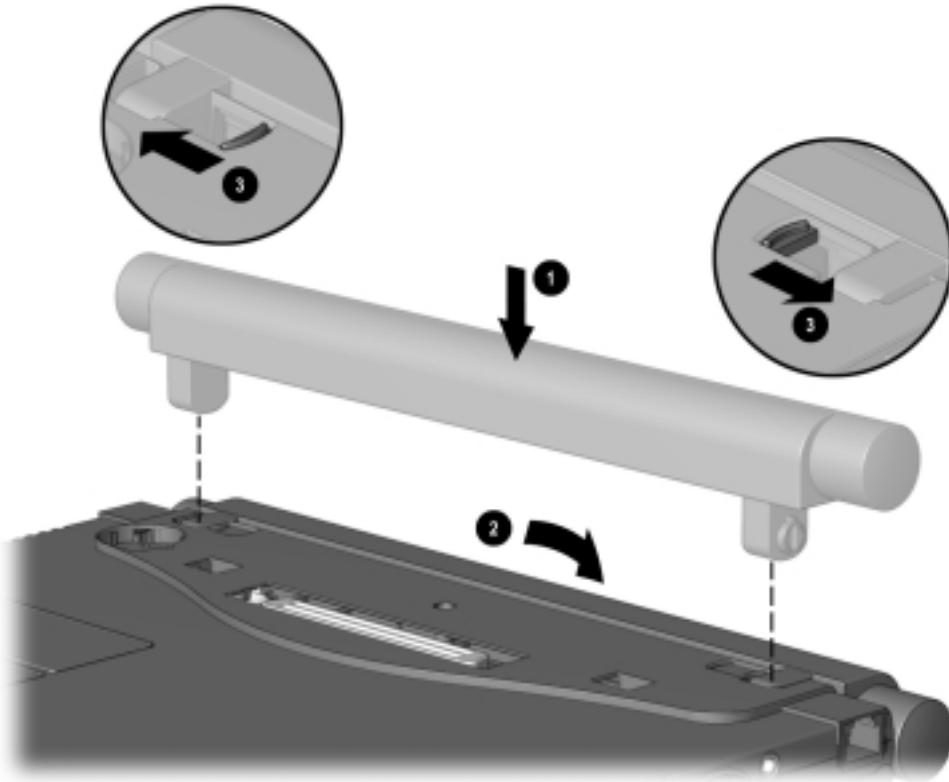

Figure 5-6. Replacing the Battery Pack
2. Push the battery pack onto the computer until the contacts connect ❶, and rotate the battery pack 90 degrees toward the back of the computer ❷ (Figure 5-6).
3. Slide the two battery latches out (away from each other) ❸.